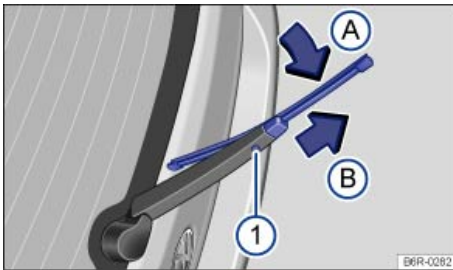

Fig. 163 Changing the rear window wiper blades.
- Press and hold the release button ⇒ fig. 163 \(1\).